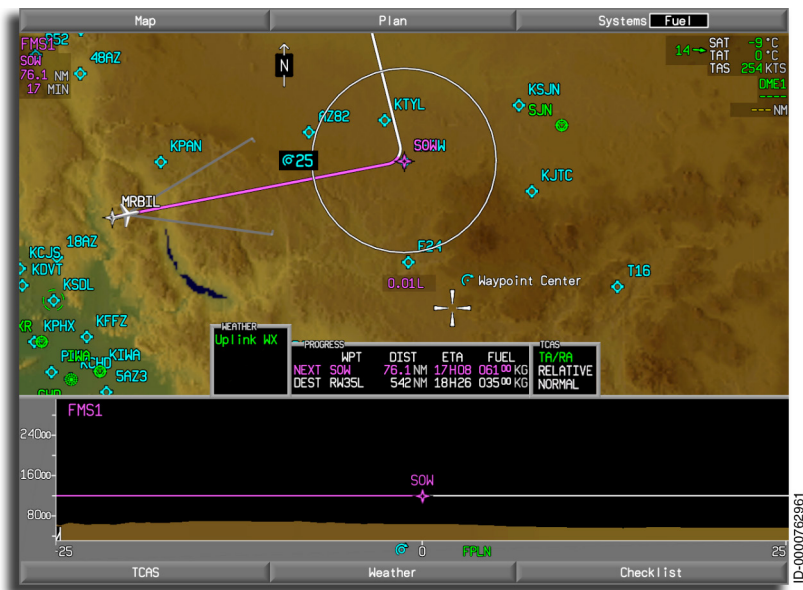

Figure 6-20
- Waypoint Centered** – The waypoint-centered display of the MFD Plan mode is displayed when the Plan mode is selected and the **Waypoint Centered** radio button is selected from the Plan menu. The center of the MFD Plan mode is fixed at the selected waypoint at the time the waypoint-centered option was selected. After selection, the position and orientation of the aircraft are updated to reflect changes in aircraft position and heading. The waypoint in the center of the display can be changed using the inner concentric knob on the CCD. When the selection is made, **Waypoint Center** is displayed in the lower-right corner of the display, as shown in Figure 6-20.